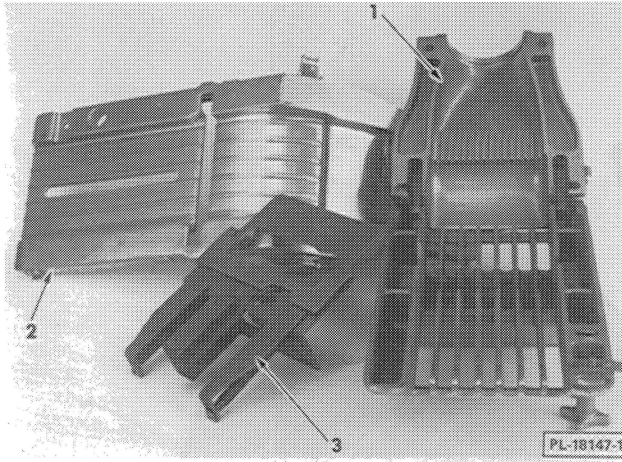

Fig. 12
11. The grilled cover and orifice (1, Fig. 12), the chute assembly (2, Fig. 12) and the blade and holder assembly (3, Fig. 12) may all be immersed and thoroughly washed in warm soapy water. After drying, lightly lubricate the blade holder with clear oil on both sides, but do not lubricate the knife. NEVER immerse the housing with its electrical components in water. The adapter may be cleaned with the chopper attachment.